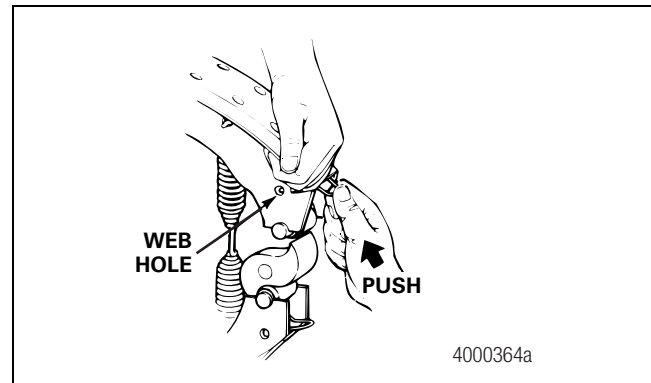

Figure 5.21
5. Push the brake shoe roller retainer into the brake shoe until the ears lock into the shoe web holes. Figure 5.21.